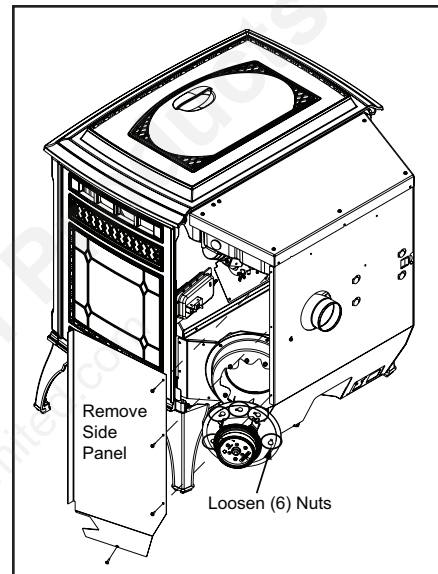

Figure 36.3
1. The combustion blower is mounted in the bottom right rear of the appliance. **Figure 36.3.**